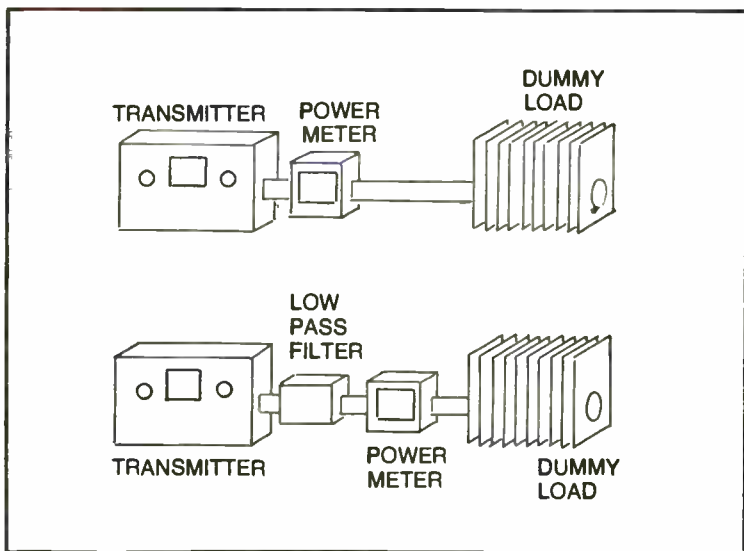

Fig. 20-22. Determining if a transmitter is causing interference by using a low-pass filter.
4. By installing one or more low-pass filters in the transmitter antenna lead, you will reduce the chances of unnecessary harmonic radiation. A low-pass filter allows frequencies up to 30 or 50 MHz, depending on brand, to pass through unattenuated to the antenna while effectively shorting out harmonic radiation. To make this test, connect the equipment as shown in Fig. 20-22 and take a power